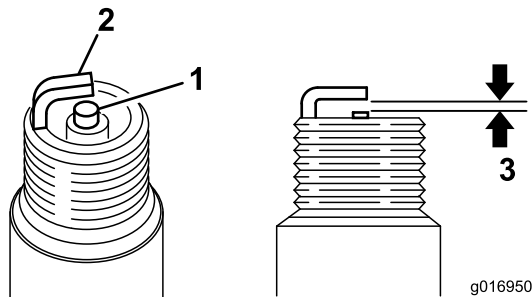

Figure 35
3. Set the air gap at 0.6 to 0.7 mm (0.024 to 0.028 inch) (Figure 35).